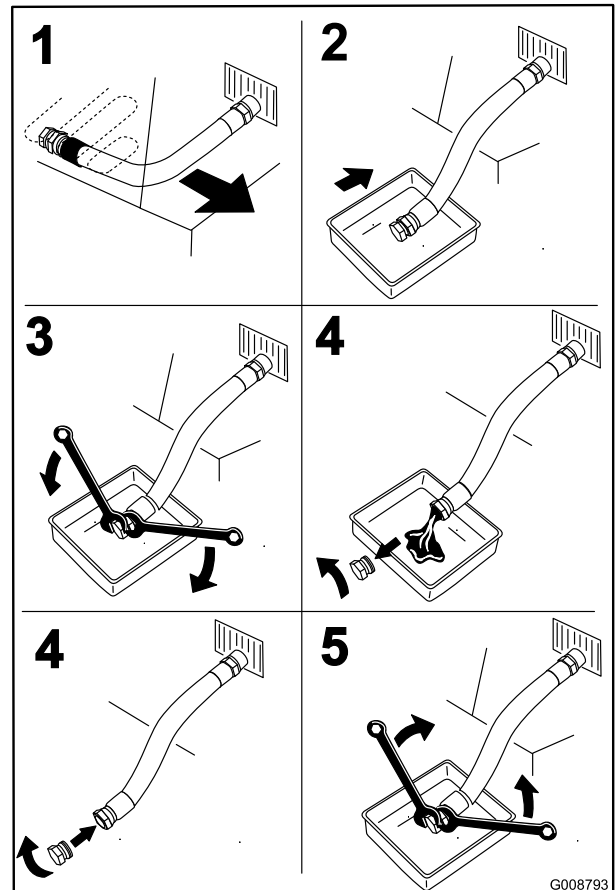

Figure 49
3. Stop the engine, remove the key, and wait for all moving parts to stop before leaving the operating position (Figure 49).